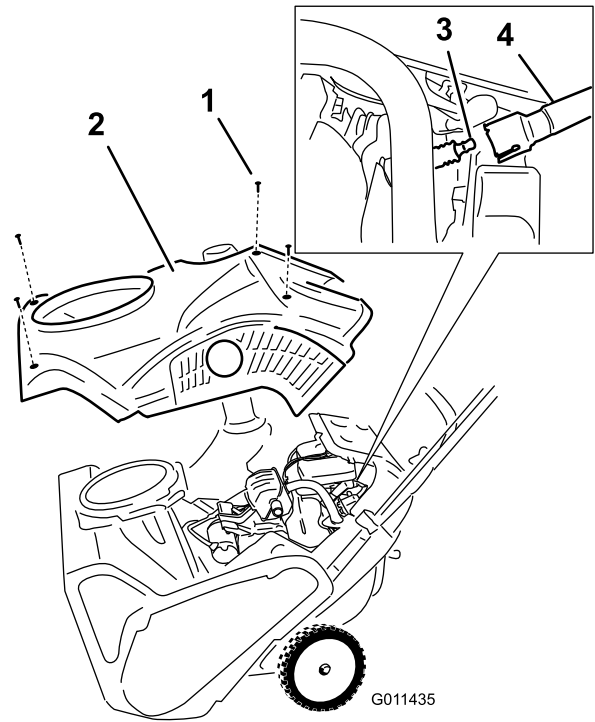

Figure 29
4. Remove the 4 screws that secure the shroud (Figure 29).
6. Remove the shroud (Figure 29).